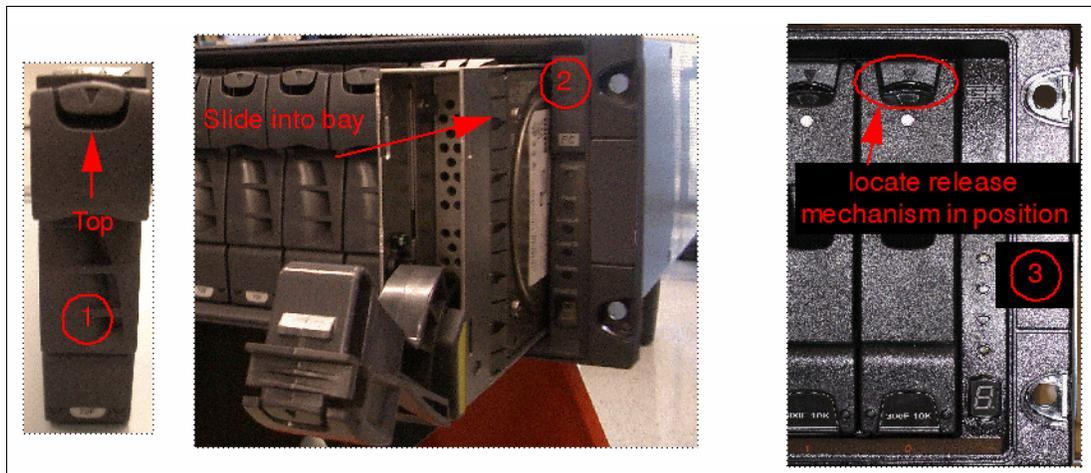

Figure 8-12 Insert disk
2. Insert the disk into the bay with the release mechanism at the top (Figure 8-12).